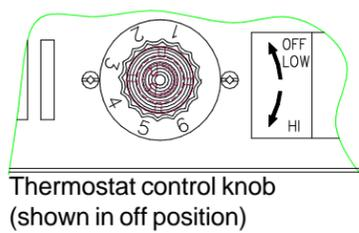

Fig.4
1. Before connecting or disconnecting plug, turn knob fully counterclockwise. (See fig. 4)